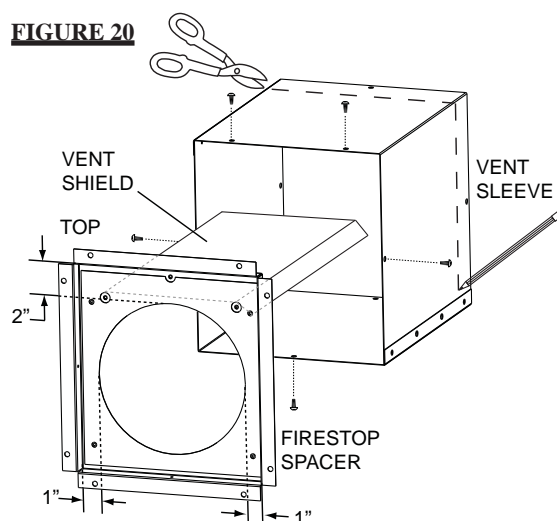

FIGURE 20
1. Insert the firestop sleeve assembly into the wall, mark the wall depth and trim the vent sleeve to suit. The screws that secure the vent sleeve may need to be repositioned to ensure a rigid assembly is maintained. **Figure 20.**